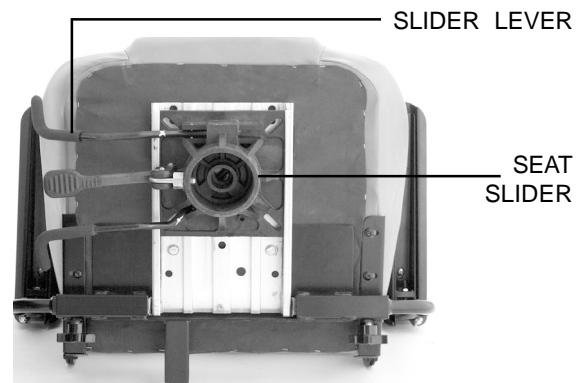

Figure 14. Front-To-Back Seat Adjustment
1. Pull up on the slider lever. See figure 14.